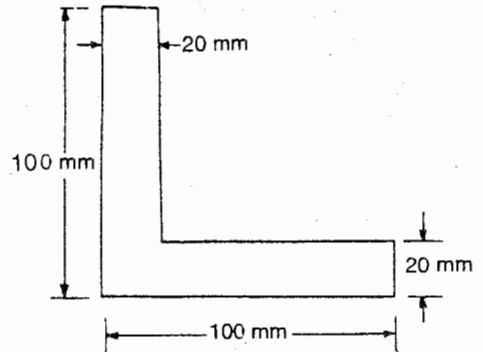

Fig. 6.29
6. Determine the moment of inertia of an equal angle section $100\text{mm} \times 100\text{mm} \times 20\text{mm}$ about both the horizontal and vertical axis passing through the centroid. fig 6.29